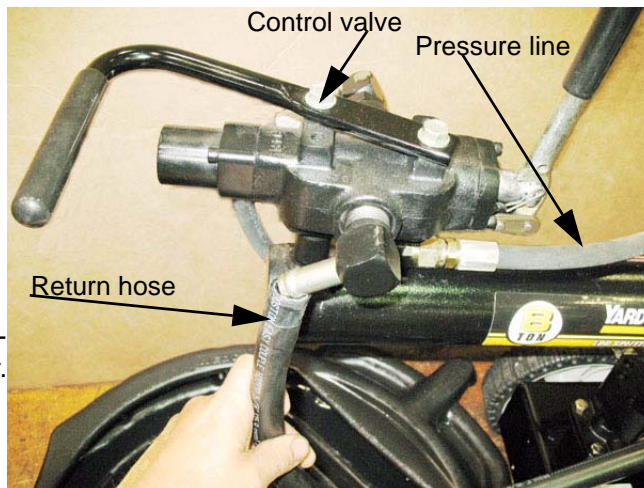

Figure 4.20
- 6.3. Remove the control valve as described in the “Control Valve Replacement” section of this chapter. See Figure 4.20.